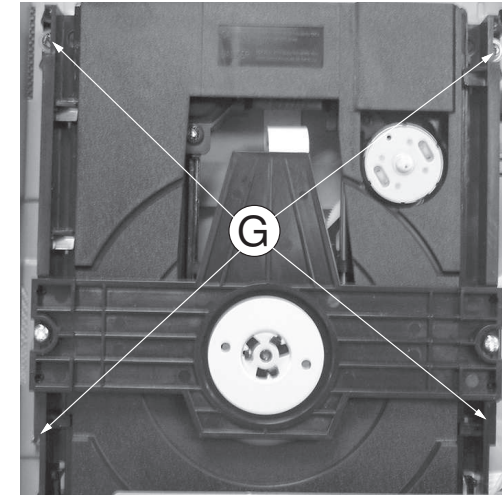

Figure 11
- 1) Loosen 4 screws " G " at the DVD module as shown in figure 11.